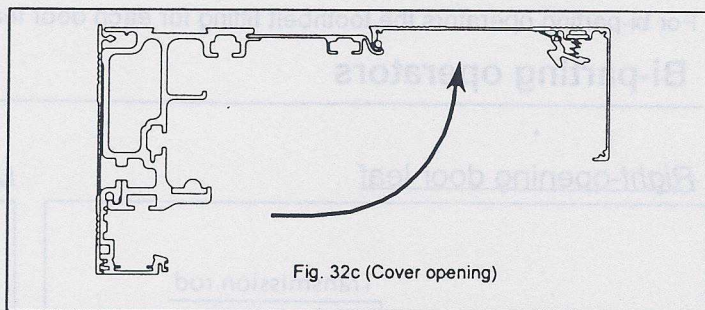

Fig. 32c (Cover opening)
3. Pull the lower part of the cover outwards about 10°. The cover can now be lifted off at the hinge joint or swung further outwards/upwards. A suitable support can then be placed to keep the cover open (see fig. 32c).